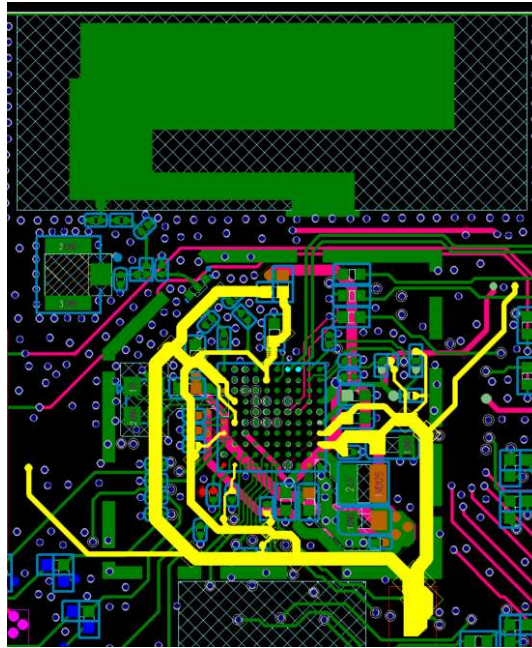

Figure 2-2 Star Routing
- The path of the power trace is recommended using star routing as shown in Figure 2-2 for better noise isolation among circuit blocks. It is strongly recommended that the power trace for PA (VRH_PA_G for 2.4G, VRH_PA_A for 5G) is routed separately. This SoC series support WiFi PA ultra-low power, namely PA can be supplied 1.25V. If you chose this mode in your product design, trace of VRM_RF which supplies DC power for 2.4G PA is also routed separately.